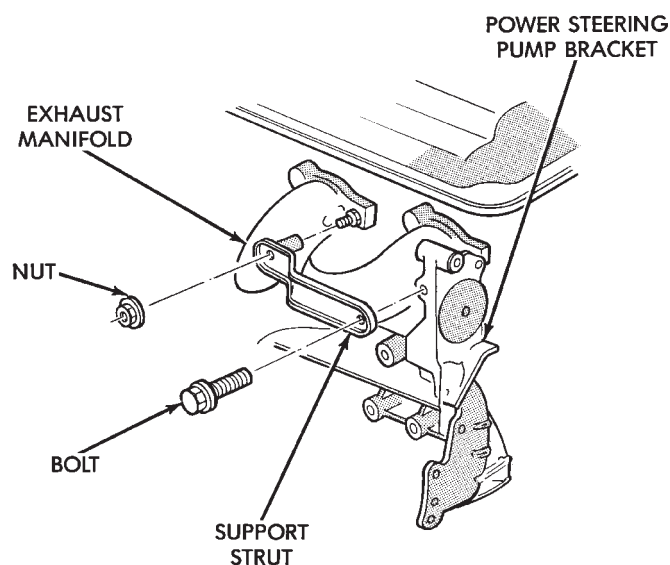
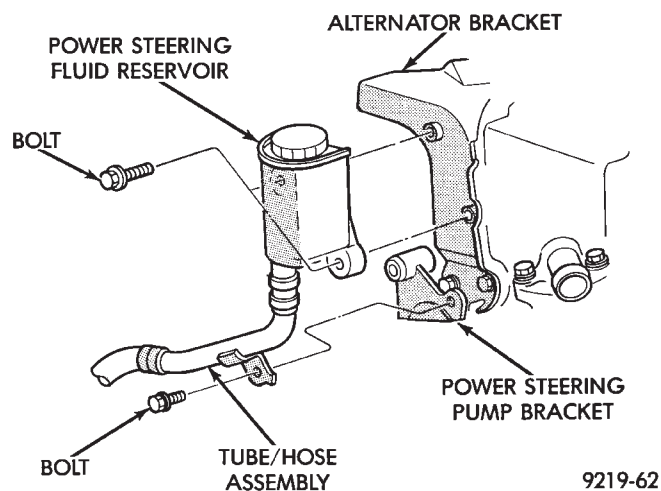
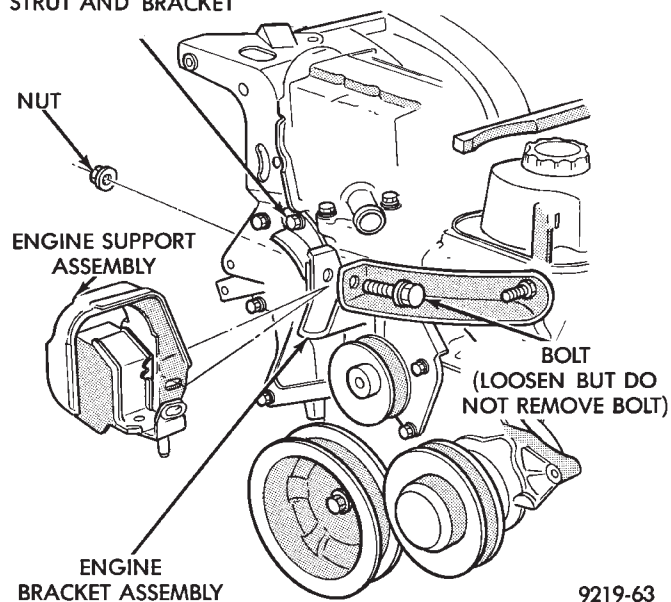
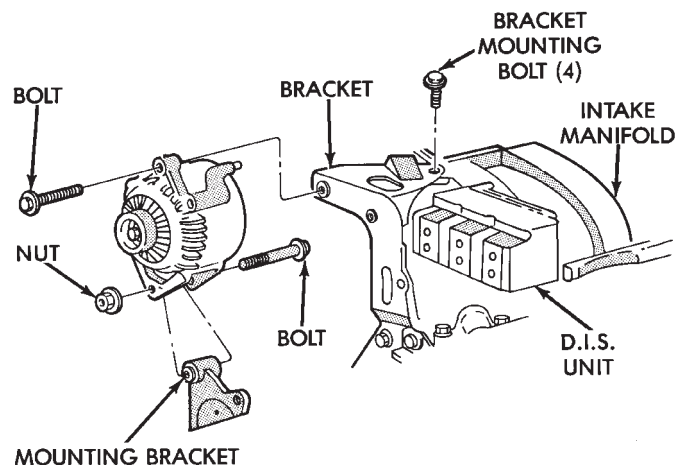

Fig. 14 Bracket Support Strut
Fig. 15 Power Steering Fluid Reservoir Mounting
Fig. 16 Engine Bracket Support Assembly
Fig. 17 Alternator Mounting
(10) Remove nut and bolt attaching the alternator/power steering pump bracket, support strut (Fig. 14).
(11) Lower vehicle.
(12) Remove the 2 bolts holding the power steering fluid reservoir to the alternator bracket. Remove the bolt attaching the tube/hose assembly to the power steering pump bracket (Fig. 15). Then remove the fluid reservoir and tube/hose as an assembly from vehicle.
(13) Remove the engine wiring harness routing clip from the alternator bracket.
(14) Loosen but **DO NOT REMOVE** the bolt (Fig. 16) holding the engine bracket assembly to the engine support assembly.
(15) Remove upper alternator to alternator bracket mounting bolt (Fig. 17). Rotate the alternator assembly back toward the dash panel.
(16) Remove the 4 bolts holding the alternator bracket to the engine and intake manifold (Fig. 17). Remove alternator bracket from engine.
(17) Remove the alternator assembly, to lower alternator bracket bolt (Fig. 17). Without removing wiring harness from alternator. Remove alternator from bracket and lay alternator on top of intake manifold.
(18) Remove the power steering pump out through the top, in the area between engine and dash panel where the alternator was mounted.
(1) Install power steering pump back in vehicle, laying it on the steering gear. Do not mount it to the power steering pump bracket.
(2) Install alternator back on the lower alternator bracket and install bolt and nut (Fig. 17). Do not tighten bolt at this time.
(3) Install the alternator bracket back on engine and intake manifold. Loosely install the 4 alternator bracket to engine attaching bolts (Fig. 17). **Be sure the SPACER (Fig. 16) is installed between the engine mounting strut and the alternator bracket.**
(5) Tighten the bolt holding the engine bracket assembly to the engine support assembly (Fig. 16) to 150 N•m (110 ft. lbs.).
(6) Attach the engine wiring harness routing clip to the alternator bracket.
(7) Install the alternator to alternator bracket attaching bolt (Fig. 16). Torque bolt to 54 N•m (40 ft. lbs.). Tighten the lower alternator pivot bolt to 54 N•m (40 ft. lbs.).
(8) Install the power steering pump fluid reservoir and tube/hose assembly onto the power steering pump bracket and alternator bracket (Fig. 15). Torque the 2 bolts holding the reservoir to the alternator bracket to 5 N•m (45 in. lbs.). Torque the 1 bolt holding the tube/hose assembly to the power steering pump bracket to 12 N•m (105 in. lbs.).
(9) Raise vehicle See Hoisting, Group 0.
(10) Install the strut assembly power steering/alternator bracket to engine (Fig. 14). Torque the nut and bolt holding the strut assembly to bracket and the intake manifold stud to 54 N•m (40 ft. lbs.).